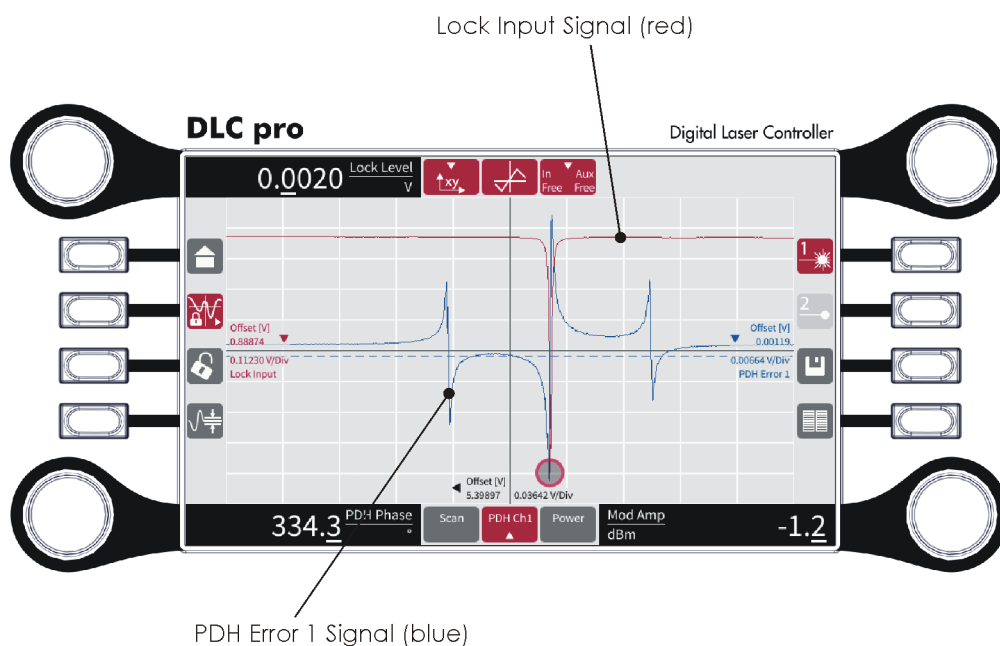

Figure 116 Display of the cavity spectrum (Lock Input Signal, red) with the corresponding PDH Error 1 signal (blue).
7. Adjust the blue PDH Error 1 signal until it looks similar to the example shown in Figure 116. Use the rotary knobs and the parameter menu (**PDH**) to configure the PDH lock parameters.